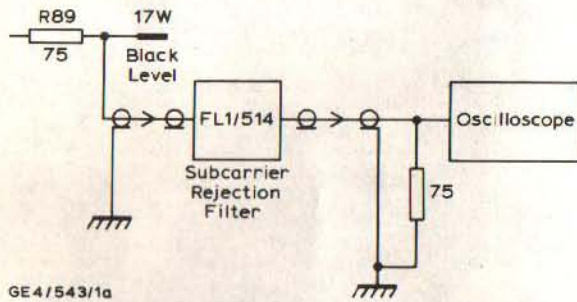
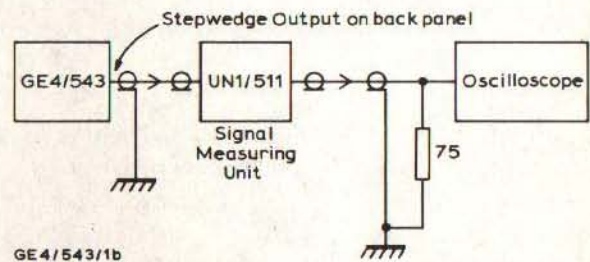

Fig. 1a Circuit for adjusting Subcarrier Harmonic Rejection
Fig. 1b Circuit for Amplitude Adjustments
4. Set up the arrangement of Fig. 1a.
9. Disconnect the arrangement of Fig. 1a and set up the arrangement of Fig. 1b.